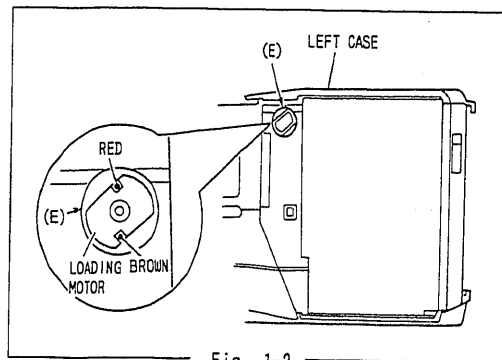

Fig. 1-2
If the electrical circuit is defective, connect a power supply directly to the loading motor that can be seen through hole (E) in the left case; the camera/recorder can be set to the eject state. (Fig. 1-2) Be careful of the following when supplying power.